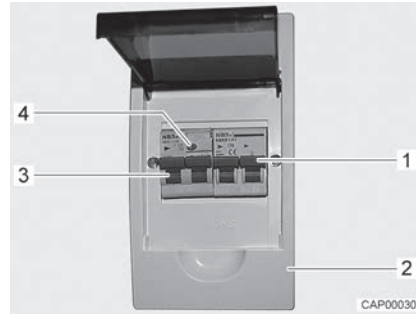

Fig. 66 Safety cut-out and FI-switch (230 V fuse box)
- Switch off the safety cut-out (Fig. 66,1) in the fuse box (Fig. 66,2).
- When the vehicle is connected to the 230 V supply, press the test button (Fig. 66,4) of the fault current protection switch (FI-switch) (Fig. 66,3) in the fuse box (Fig. 66,2). The fault current protection switch must trip.
- Switch the fault current protection switch (Fig. 66,3) back on again.